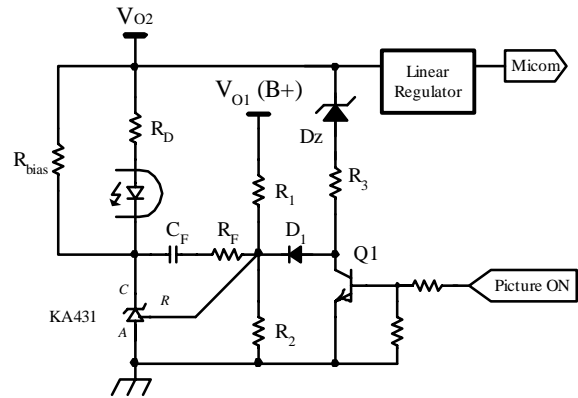

Figure 15. Typical feedback circuit to drop output voltage in standby mode
6. Burst operation : In order to minimize the power consumption in the standby mode, FSCQ1265RT employs burst operation. Once FSCQ1265RT enters into burt mode, FSCQ1265RT allows all output voltages and effective switching frequency to be reduced. Figure 15 shows the typical feedback circuit for C-TV applications. In normal operation, the picture on signal is applied and the transistor Q1 is turned on, which de-couples R3, Dz and D1 from the feedback network. Therefore, only Vo1 is regulated by R1 and R2 as